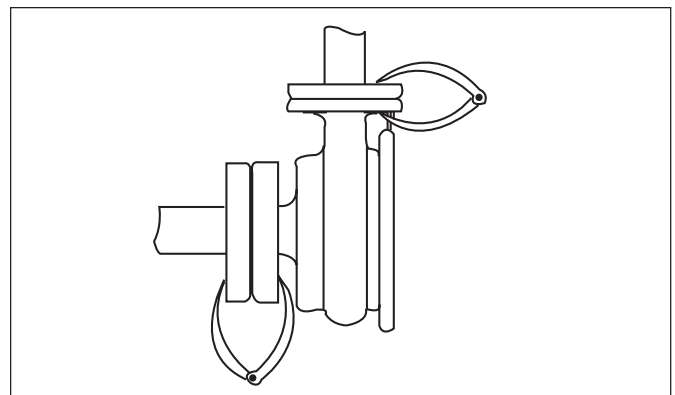

Figure 2
7. Angular alignment of the flanges can best be accomplished using calipers at bolt locations (See Figure 2).